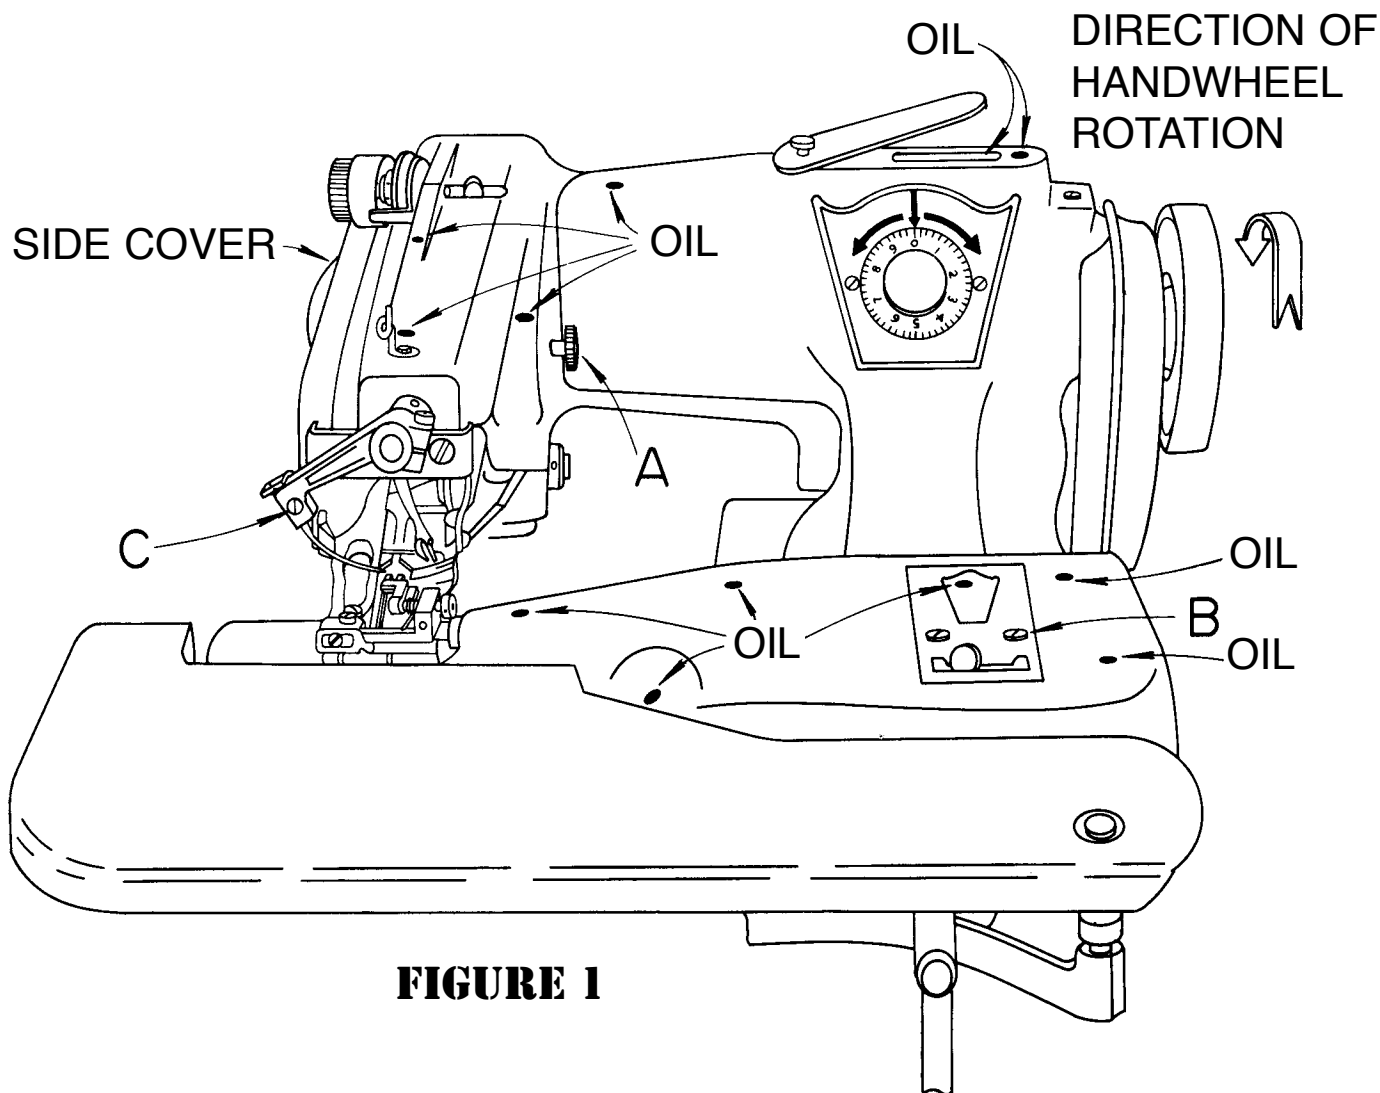
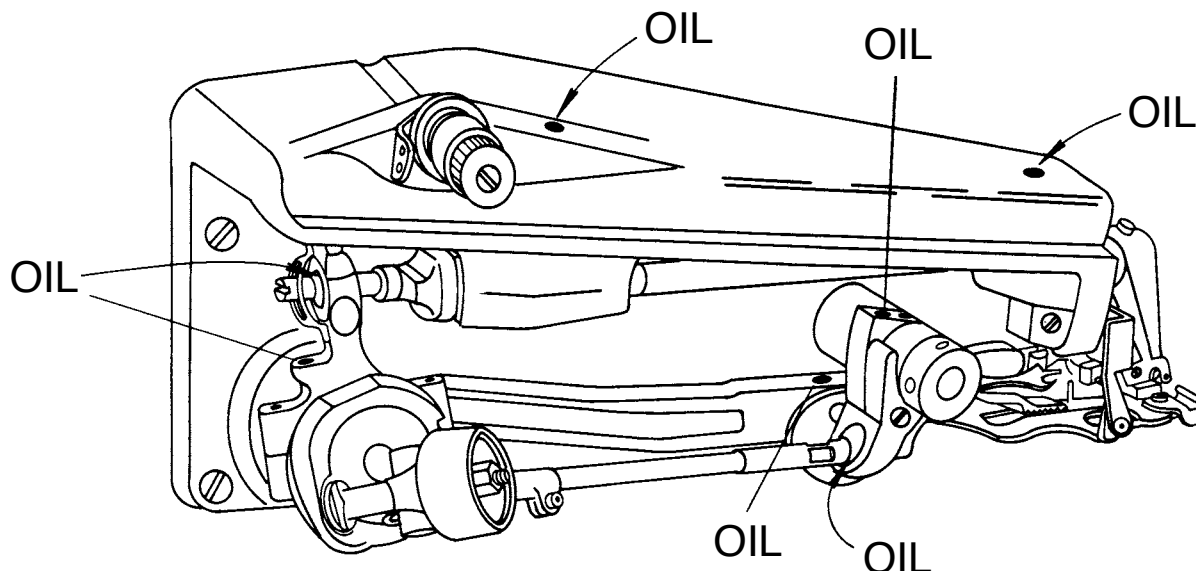

FIGURE 1
FIGURE 2
2. The machine should be mounted so as to insure that the direction of rotation of the handwheel is away from the operator. In other words, the handwheel rotates in a clock-wise direction when looking at the face of the wheel pulley, as shown by the arrow in **Figure 1**.
2. Place a few drops of oil at all the points shown on the oiling chart in **Figure 1**. Remove the side cover shown on **Figure 1** by loosening the cover attaching bolt "A". Then place a few drops of oil at all the points shown on the oiling chart in **Figure 2**.
3. In production use, the machine should be oiled on a daily basis in accordance with the instructions in item 2 above.
b. The lifter rod itself may be moved from left to right as follows: Loosen the screw attaching the small window plate on top of the feed frame (*see Figure 1, item "B"*) and swing this plate out of the way. By inserting a screw driver into the window, the two screws which lock the lifter rod to the lifter rod bracket may be loosened. Move the rod to the desired location and tighten the two lifter rod bracket screws. Replace the window plate in its proper location and tighten the window plate screws.
2. Remove the side cover by loosening the attaching screw (*item "A" in Figure 1*) and observe the machine from the rear.
b. Loosen the needle clamp screw (**item "C" in Figure 1**), slide the clamp rearward sufficiently to release the old needle, and remove and discard it. Insert the new needle and push it up into the groove of the needle lever as far as it will go. Make sure that the flat on the shank of the needle faces rearward and the needle is properly seated in the groove. Tighten the needle clamp screw and turn the handwheel slowly making sure that the needle passes lightly over the needle guide on the presser foot and clears the looper. Readjust the needle penetration as described in a previous section, prior to resuming operation.
b. Loosen the needle clamp screw (**item "C" in Figure 1**), slide the clamp rearward sufficiently to release the old needle, and remove and discard it. Insert the new needle and push it up into the groove of the needle lever as far as it will go. Make sure that the flat on the shank of the needle faces rearward and the needle is properly seated in the groove. Tighten the needle clamp screw and turn the handwheel slowly making sure that the needle passes lightly over the needle guide on the presser foot and clears the looper. Re-adjust the needle penetration as described in a previous section, prior to resuming operation.